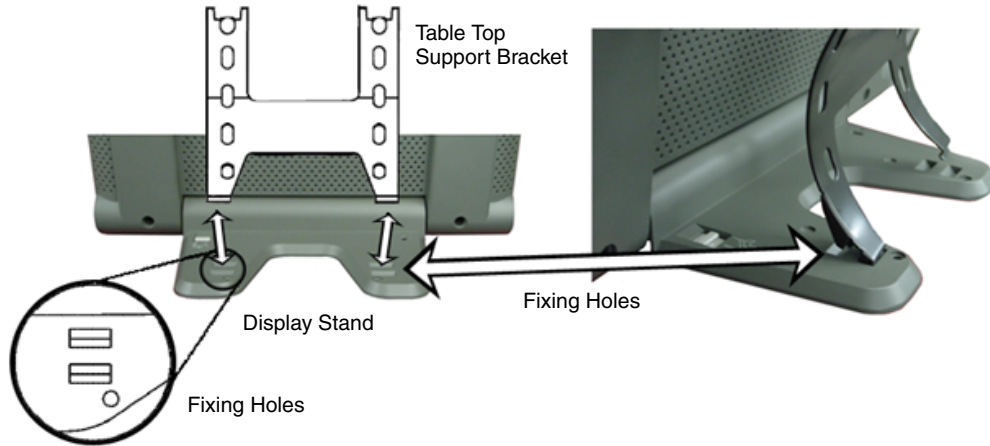

FIG. 9 Fixing holes on each side of pull-out flap
5. Insert the double-raised end of the Table Top Support Bracket (FIG. 9) into the fixing holes located on the display stand. One support bracket and two screws come with the VTM-D15/A. There are two fixing holes on each side of the stand.